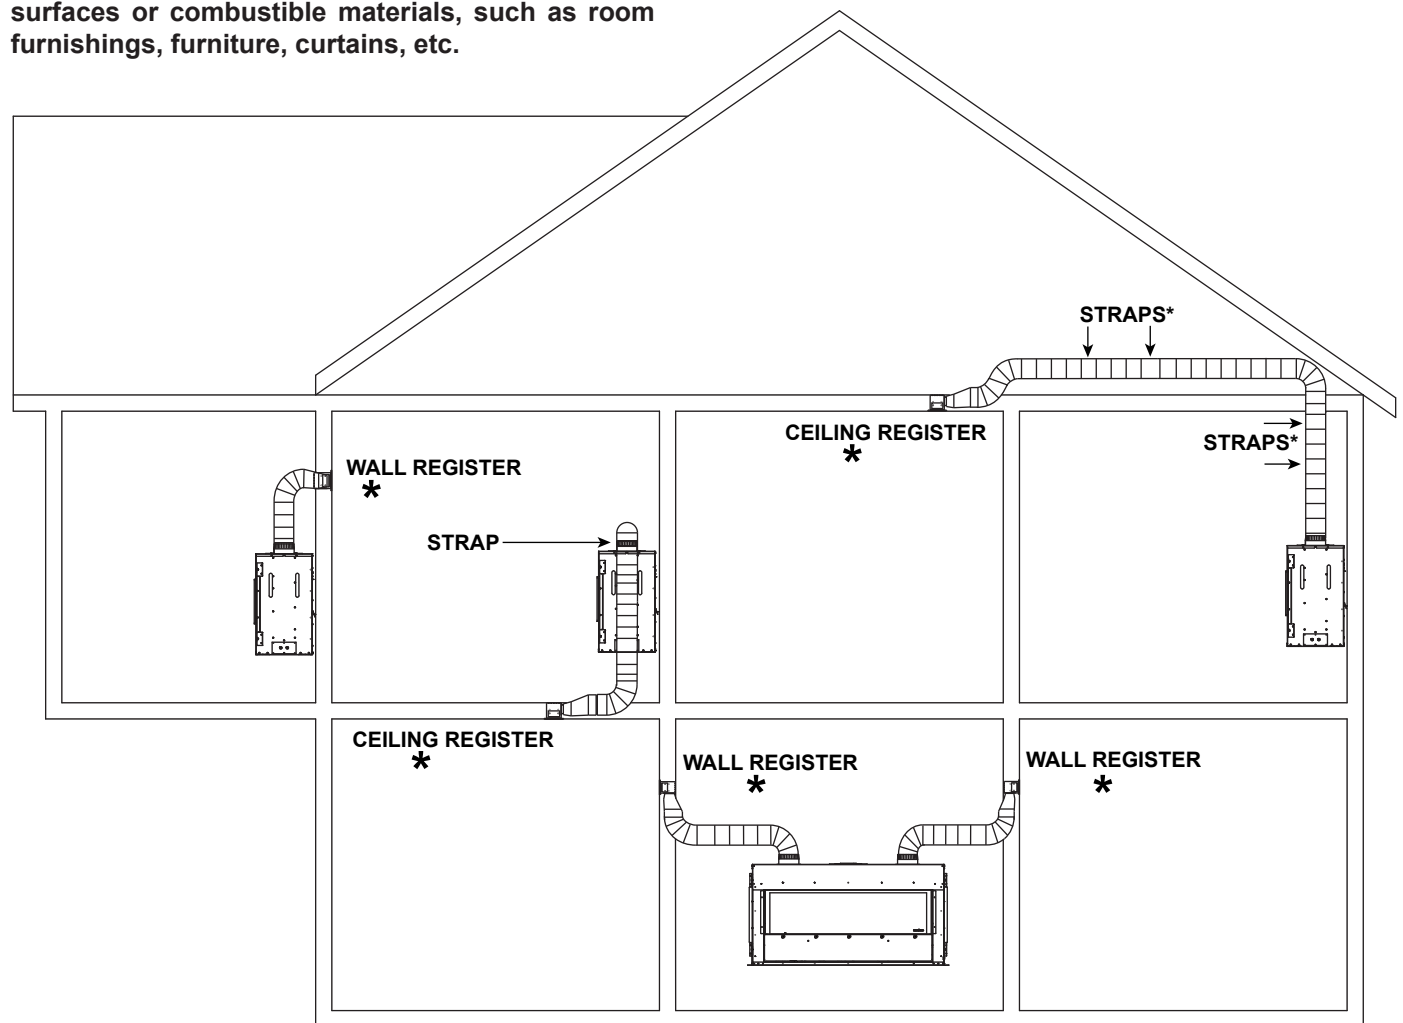
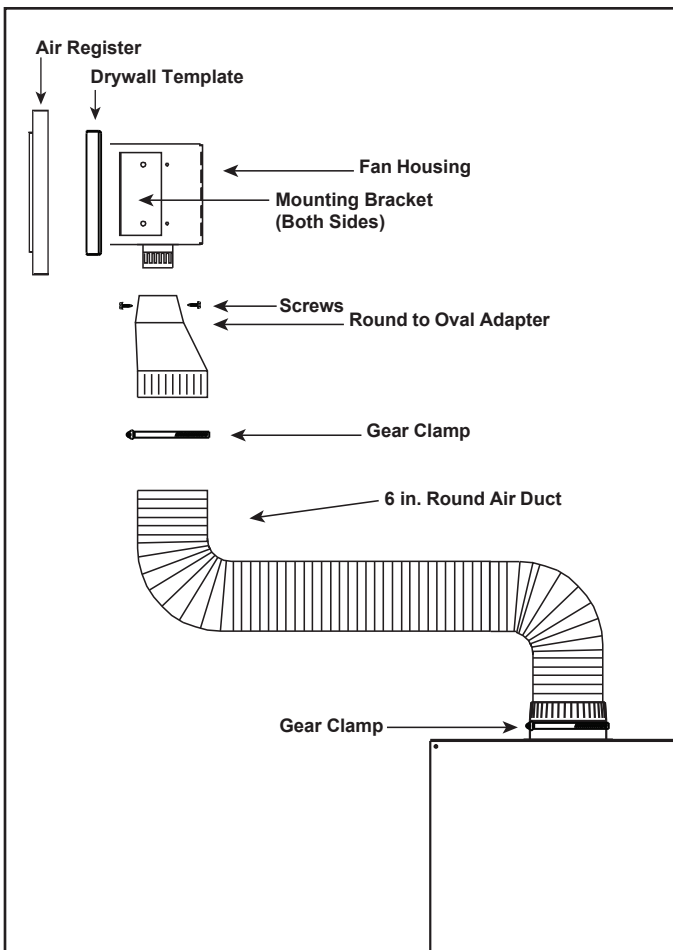

Figure 1. HEAT-ZONE-PRIMO Locations
Figure 8.
- Mount fan housing in desired location. See Figures 1, 6 and 7. It may be desirable to add the drywall template(s) to the fan housing at this time. The drywall template(s) can be removed and discarded after the finishing material has been installed. See Figure 8.